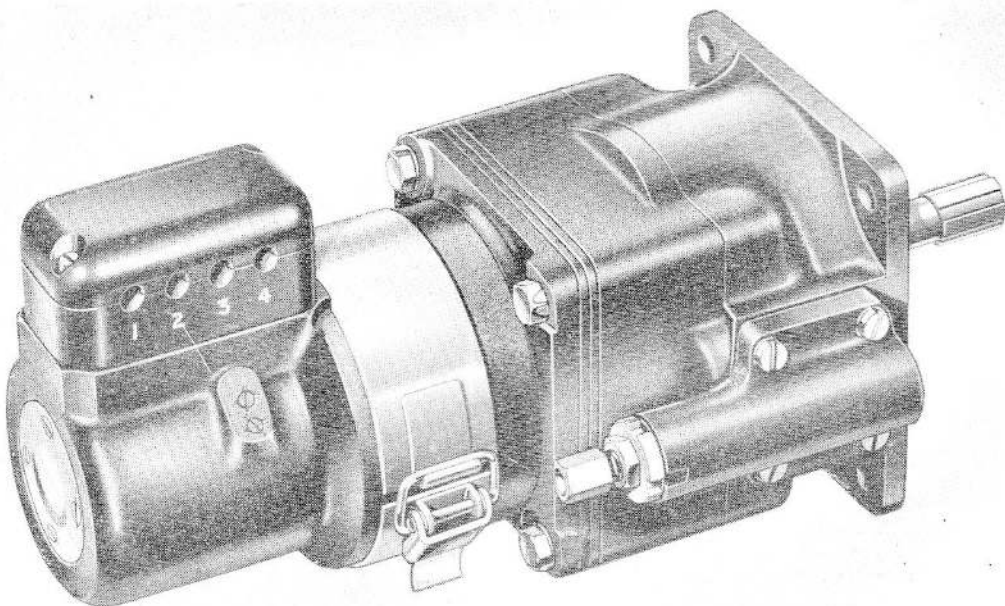

Fig. 1. General view of typical actuator
2. A typical actuator in the series, the Type C5201/1, is illustrated in fig. 1 and 2. The actuator normally incorporates a small reversible shunt-wound motor, which drives the splined drive shaft through a three-stage epicyclic gear train.